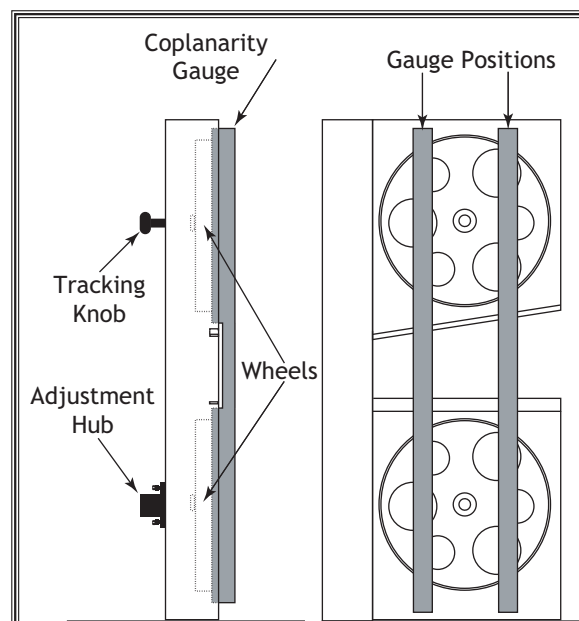

Figure 74. Checking for coplanarity.
7. Place your coplanarity gauge up against both wheels in the positions shown in **Figure 74**.